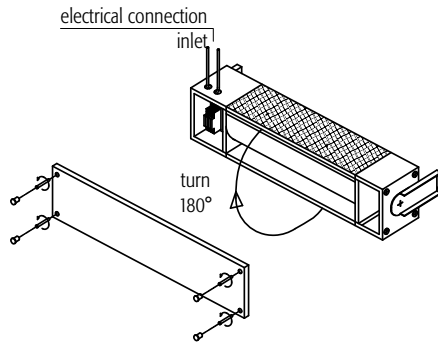

Fig. 23
10. replace the rear panel using the fastening screws, without repositioning the cover caps (Fig. 23);